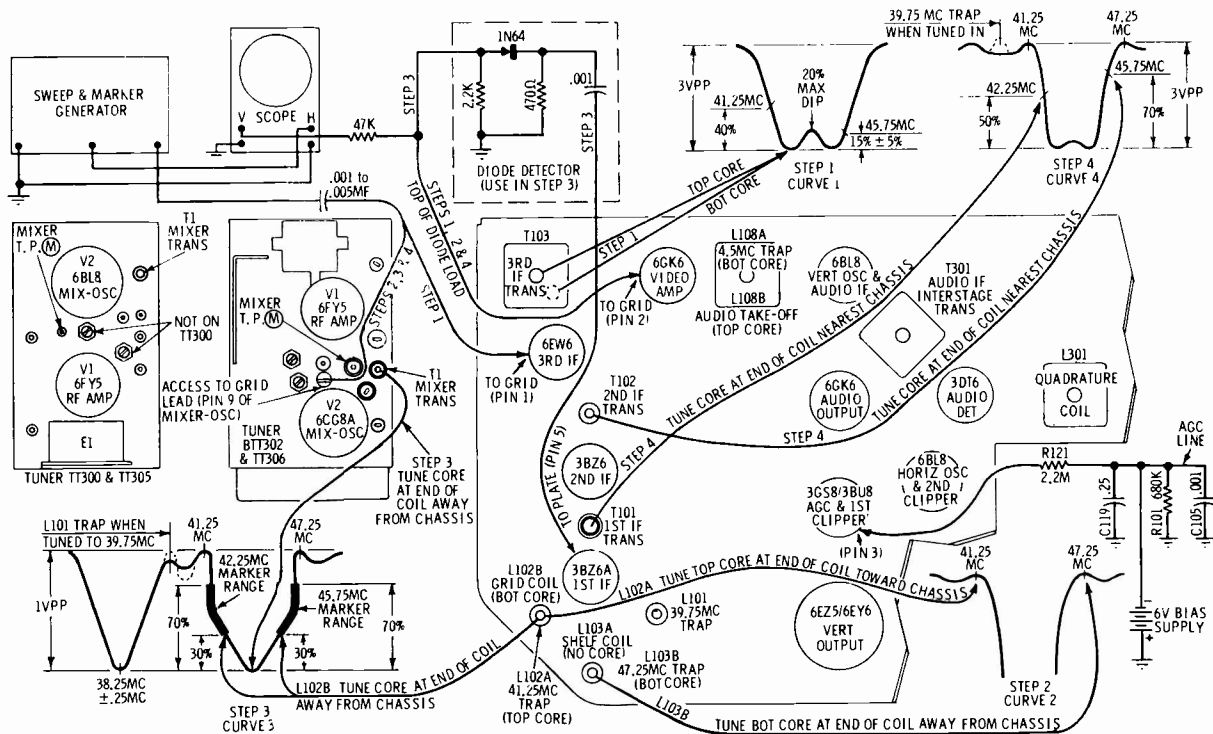

FIGURE 10. VIDEO IF & SOUND ALIGNMENT DETAIL
9. Refer to Video IF and Sound Alignment Detail for component and test point locations (Figure 10).
3. Refer to Video IF & Mixer Alignment Detail for coil and test point locations (Figure 10).